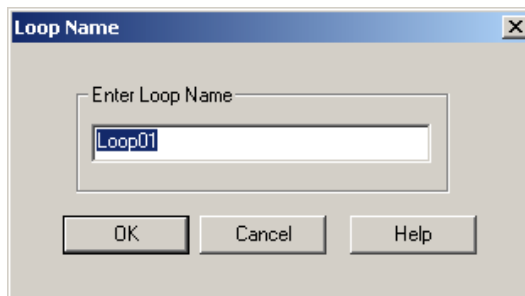

Figure 10-2 Loop Name dialog
2. Select **Loop > New > Function Block** or **Ladder Logic**. The Enter Loop Name dialog displays. See Figure 10-2.